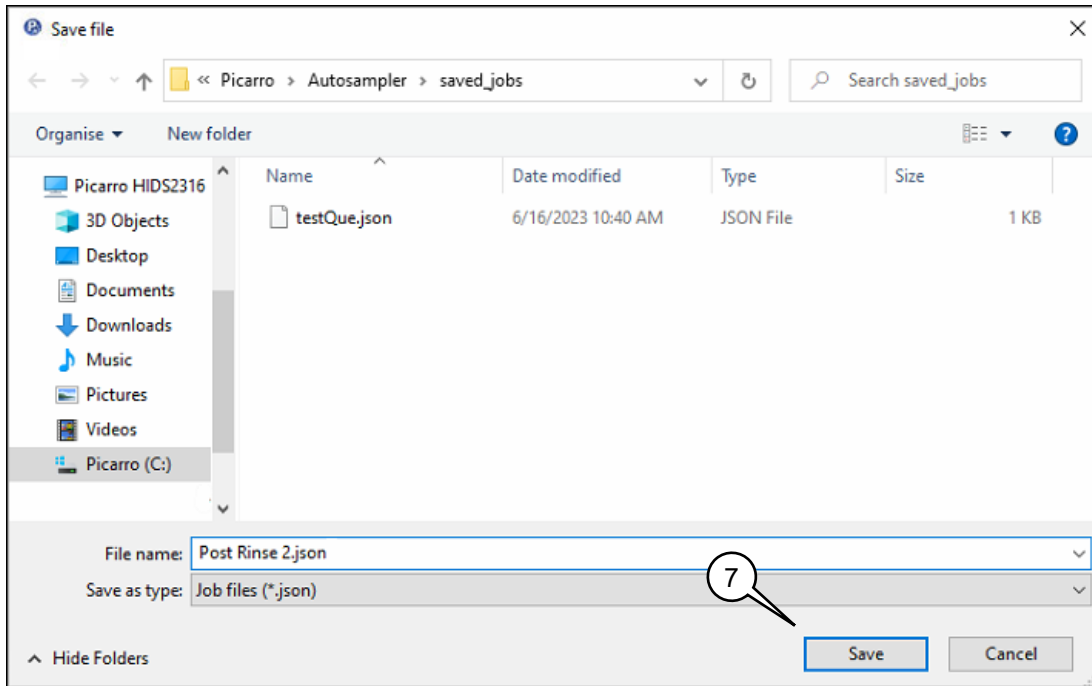

Figure 70: Job Queue/Save File
7. The **Save File** window displays as shown in Figure 70. Specify the desired location, name the file, and click **Save**.